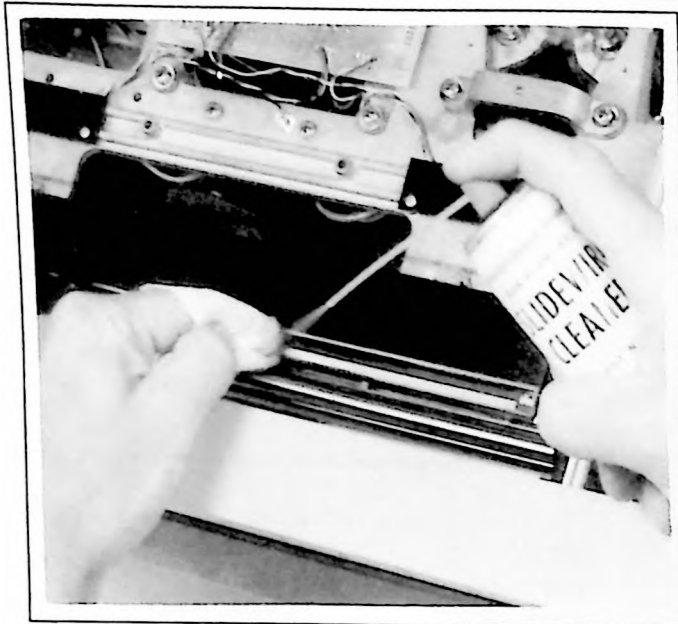

Figure 5-1. Slider Rod Cleaning
- d. Slider rod (Figure 5-1) should be kept free of any oils or dust because slider block has Teflon impregnated bushings that should be kept free from any lubricant. Spray slider block and slider rod with slidewire cleaner, HP Part Number 5080-3605 from Accessory Kit. Move servo pen through several full-scale excursions, and wipe clean with a Kimwipe.